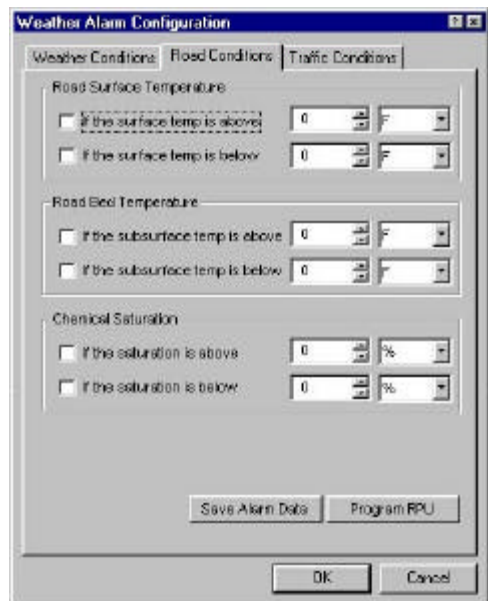

Figure 3.23 Traffic Condition Alarm
1. Using the mouse select the Road Conditions Tab from the menu.(ref. to fig. 3.23)